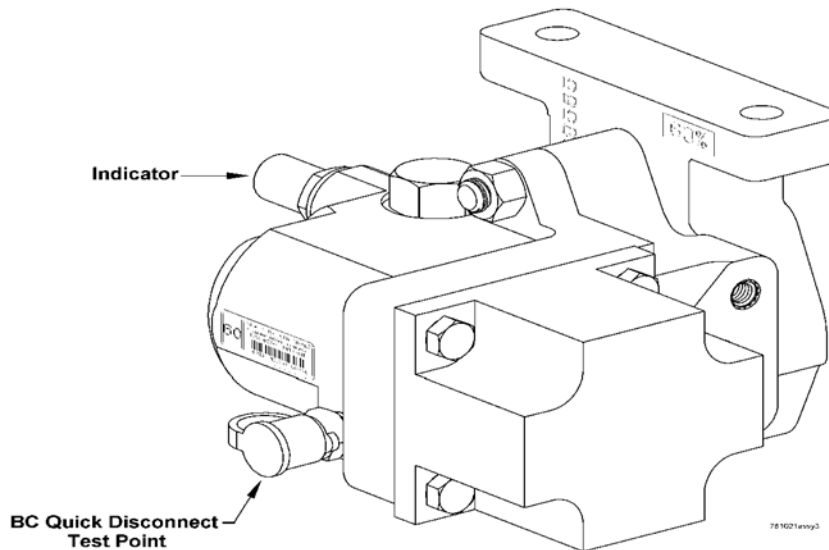

Figure 37: ELRP Proportional Valve Portion
5.14 ELRP - LOAD PROPORTIONAL VALVE, Fig 37